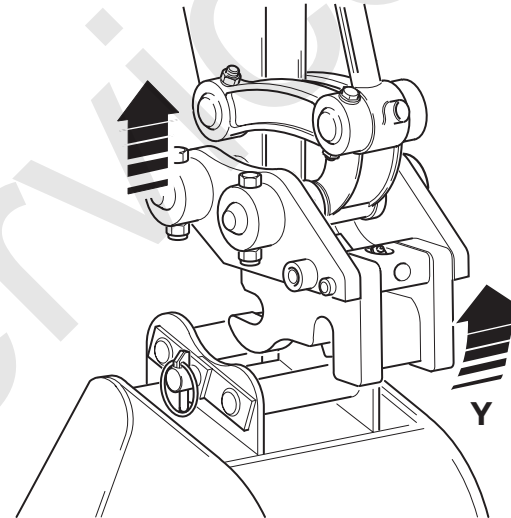

Fig 109.
- 6 Slowly roll the Quickhitch back and simultaneously raise the dipper arm to release the buckets' front pivot pin, → Fig 109. \(□ 273\) at Y.